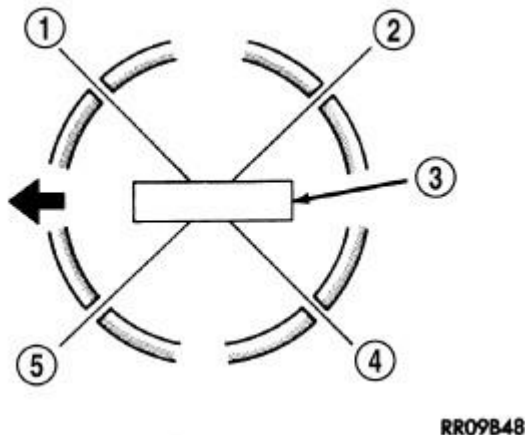

Fig. 161: Piston Ring End Gap Position
12. Position piston ring end gaps as shown in illustration. See **Fig. 161**. It is important that expander ring gap (5) is at least 45° from the side rail gaps, but not on the piston pin center or on the thrust direction.